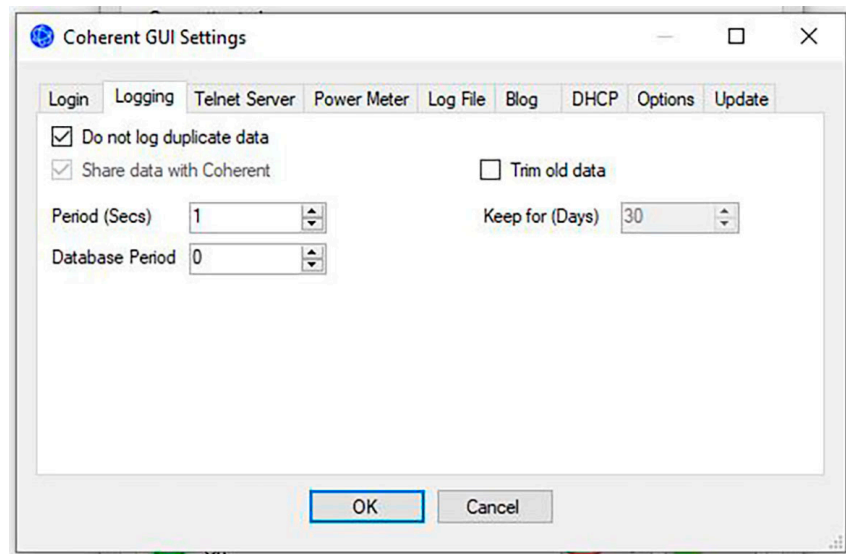

Figure 6-16. Logging Menu Tab
4. To save datalogger storage space, check the “Do not log duplicate data” check box as shown in Figure 6-16.